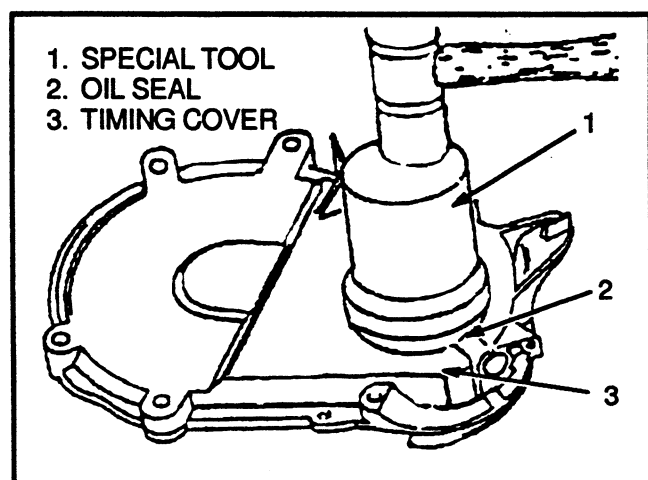

FIGURE 22. TIMING COVER
1. Install a new oil seal in the timing cover. See FIGURE 22. Make sure the open side of the seal is toward the inside of the cover.